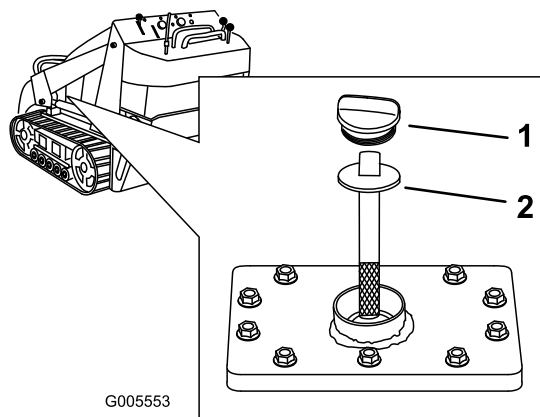

Figure 16
5. Clean the area around the filler neck of the hydraulic tank (Figure 16).
6. Remove the cap from the filler neck and check the fluid level on the dipstick (Figure 16).